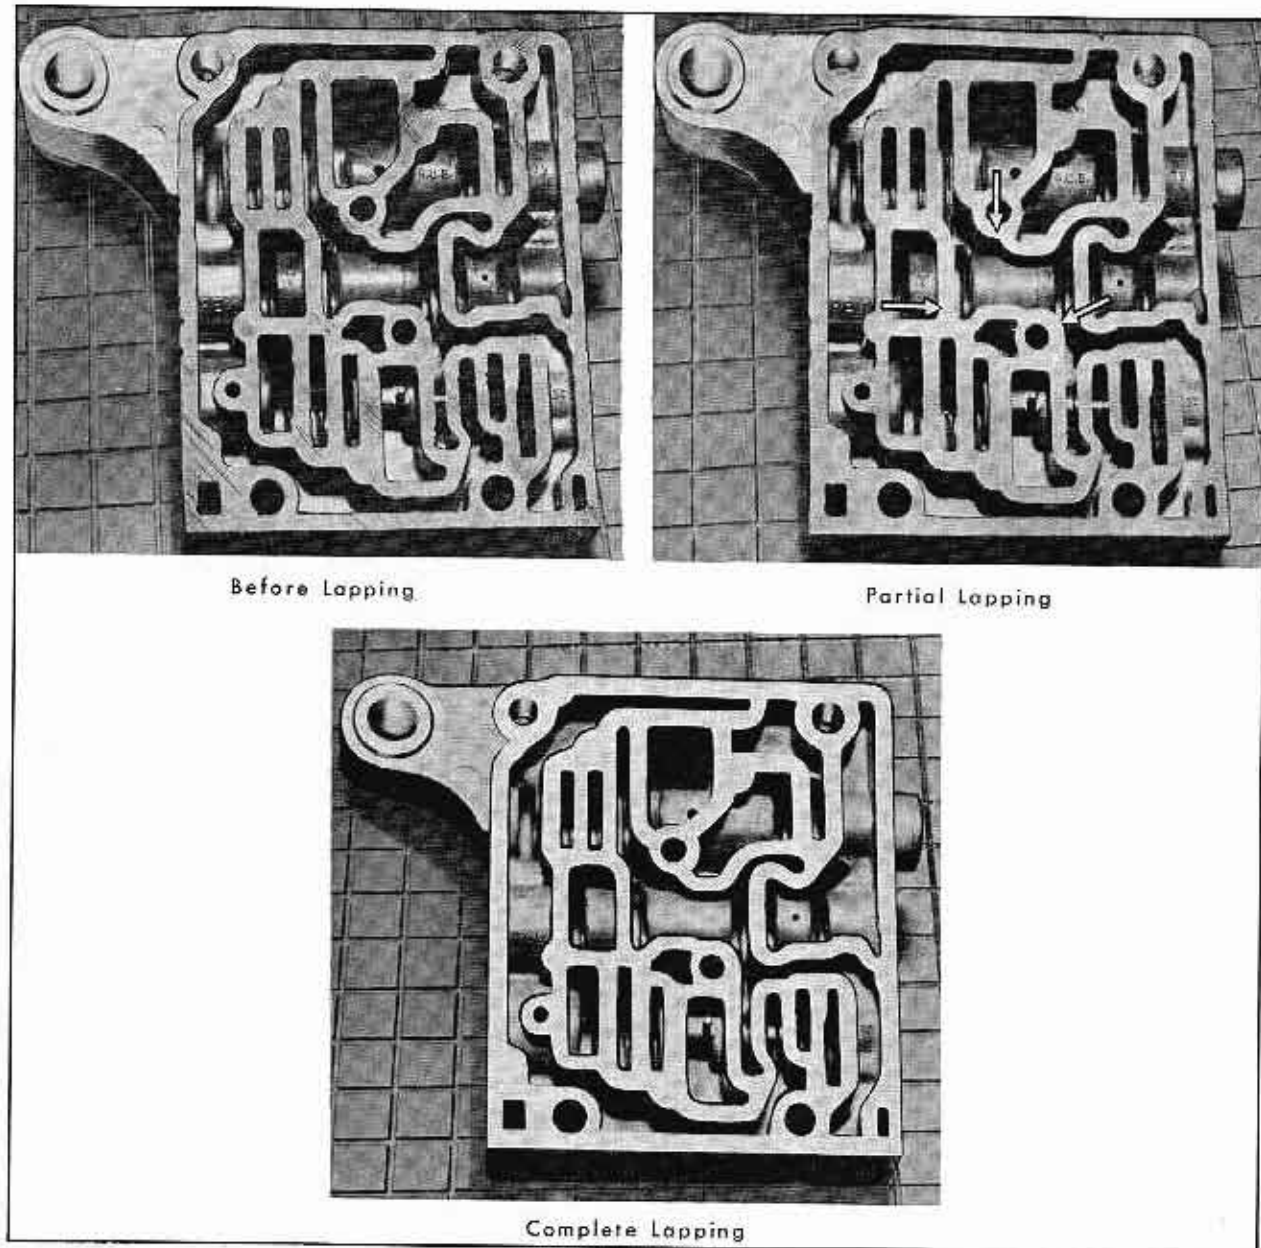

Fig. 14-72 Lapping Surfaces of Valve Body
surfaces for warpage on a surface plate. If warpage is noted, lap the affected surfaces until smooth and flat, as explained below: Fig. 14-72.
b. Wash off and inspect carefully. High spots will show up as dull gray patches while any low spots as indicated by arrows, Fig. 14-72 will be shiny. If visual inspection indicates surfaces are not perfectly flat, continue lapping until all shiny spots have disappeared and the entire surface is a dull gray color.